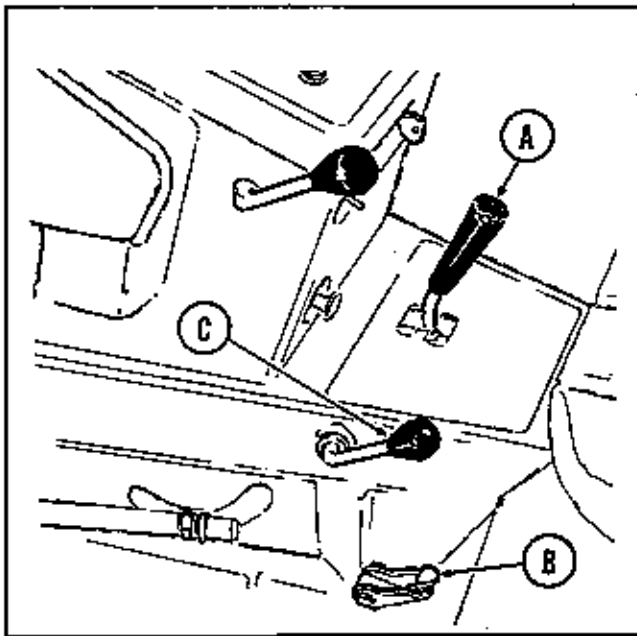

Figure 2. Controls seen from left side of tractor.
**TRANSMISSION SHIFT LEVER:** (Figure 2, item A)
**PARKING BRAKE LOCK:** (Figure 2, item B) To lock the parking brake, grasp the lock and pull it upward and back until the handle rests against the footrest as shown in figure 2. To release pull the top portion away from the footrest and down. It should be locked in the up position to prevent the tractor from rolling whenever the operator leaves the tractor seat. Remember to release the parking brake before driving the tractor.
**POWER TAKE OFF CONTROL LEVER:** (Figure 2, item C) This lever controls power to center or rear mounted attachments such as a mower or rotary tiller. Pull the lever up and move it forward until it snaps over center to engage the power take off. Pull it back and down to disengage. Always move the power take off control lever all the way to the disengaged or engaged position. The tractor engine should be running at 1/2 to full engine speed when the power take off is engaged to absorb the added load. **CAUTION: ALWAYS DISENGAGE THE POWER TAKE OFF, AND WAIT UNTIL ALL ATTACHMENTS HAVE STOPPED MOVING BEFORE LEAVING THE TRACTOR SEAT.** The power take off control lever must be disengaged before the engine will start.